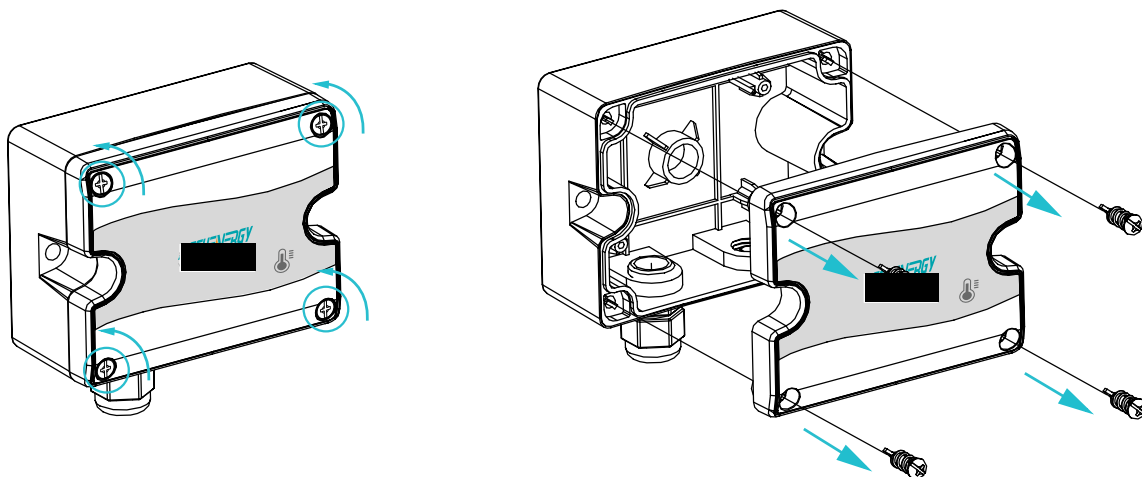

Figure 2 AcuTEMS OA Removing Front Cover
- NOTE:** Exercise caution to not over-rotate the screws, which could damage the enclosure. Refer to Figure 2 for details.